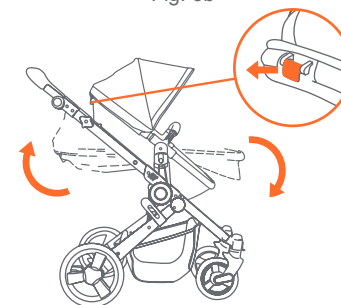

Fig. 7a
- 7) • The seat can be adjusted into upright, reclined and carriage position. Pull the recline button on the rear of the seat and rotate the seat into the desired position (Fig. 7a).